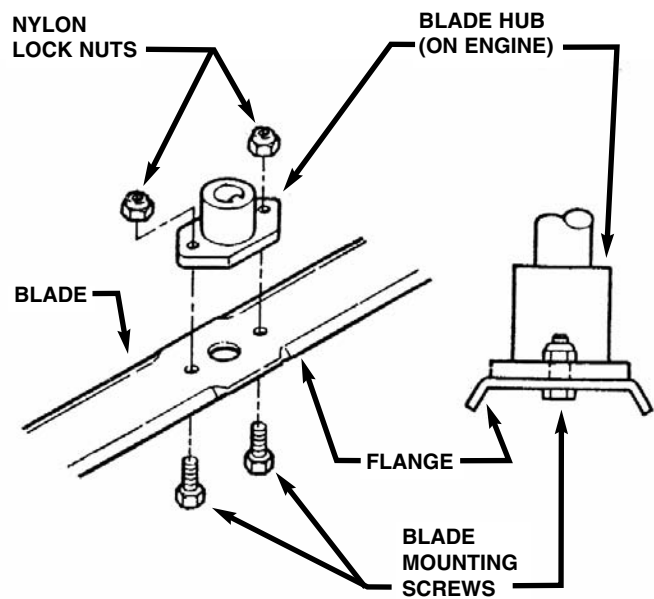

FIGURE 4.2
6. Reinstall blade. See Figures 4.2 & 4.3. Check torque of blade retaining cap screw. Recommended torque should be 30 to 40 ft. lbs.